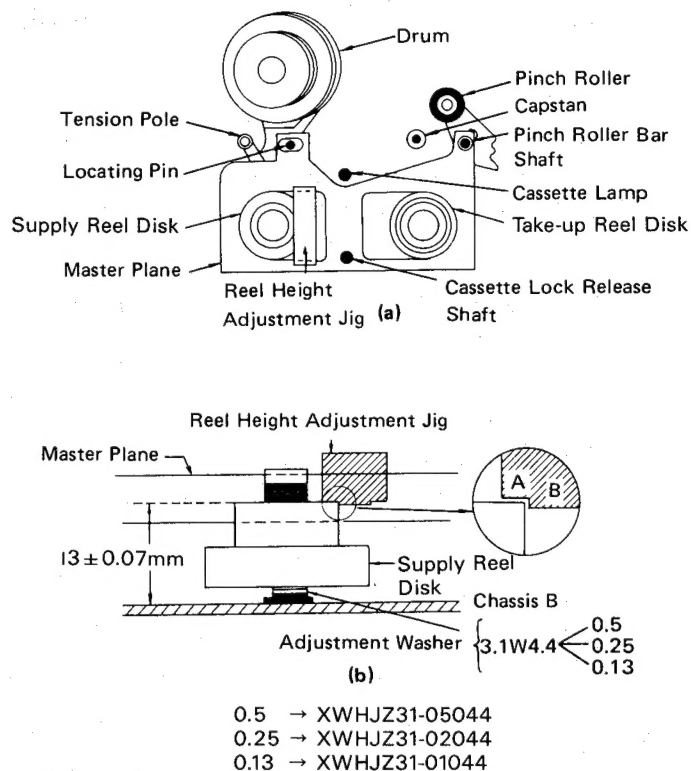

Figure 6
1. Remove the cassette housing and set the master plane in the mechanism as shown in Figure 6, taking care not to touch the drum.